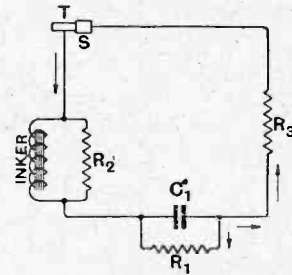

Fig. 3.—Showing circuit of Fig. 2 when T and S are in contact.
valve-coupled, the direct effect of incoming radiation³ on the coils is much attenuated, since the signal strength therein has undergone appreciable amplification and the ratio of signal to interference is increased as we progress along the amplifier. In general, however, it will be found necessary—especially if the coils are not wound astatically—to screen each intervalve filter, so that the above advantage is practically offset. Nevertheless, it is well to satisfy one's curiosity and gain experience by trying both modes of reception, namely (1) filter circuits with or without reaction followed by H.F. magnification, (2) combined filter circuits and H.F. magnification. With reference to the reaction circuits of Figs. 3
A glance at Fig. 2 will reveal other accessories. For example, the inker is shunted by a non-inductive resistance and there is a resistance connected between the stops M and S . The object of the former is to obviate sparking at the contact S when T breaks away from M , whilst the latter eliminates the possibility of short circuiting the battery if an arc should occur between M and T whilst T arrives at S , or if during adjustment of the contacts the three should inadvertently get jammed together. The elimination of sparking is an important matter. Continual sparking results in pitted contacts accompanied by a high resistance which reduces the current below a working value. The resistive shunt on the inker serves as a buffer for the electro-magnetic energy stored in the windings, which must be dissipated when T leaves M . When T comes in contact with S , the circuit is shown in Fig. 3. It will be seen that the condenser discharges through R , and also through the inker. Since the current through the inker is now reversed, demagnetisation occurs, which assists in the rapid annulment of eddy currents in the iron masses and promotes a more speedy return of the armature to the spacing stop. The effect of this artifice is not appreciated until it comes to high speeds of reception, for which purpose an inker is usually unsuited. Concerning sparking and shunted condensers, the experimenter would be wise to consult some literature on line telegraphy—for instance, "Telegraphy." by T. E. Herbert. There are other methods of reducing sparking, e.g., condensers and resistances across the relay contacts, which are discussed in this book. Double or reverse current methods of working the inker, in which the armature is driven both ways (no spring being used), are also given.